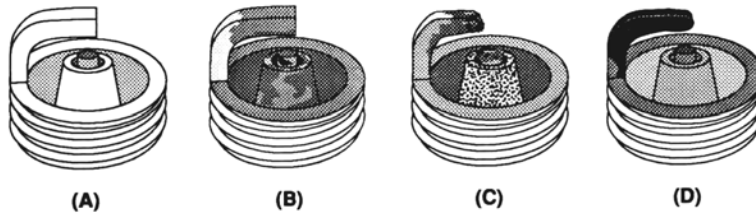

Figure 8 Spark Plug Condition
18. Push the throttle wide open while the engine is off. Each solenoid should make a clicking noise if it is cycling correctly. If no noise is heard, check all the wiring connections and the wiring schematic in Figure 8.
1. Perform a dynamometer pull or a full throttle pass down the racetrack. Note the power reading or vehicle mph (not e.t.). Examine the spark plugs for an indication of lean or rich nitrous/fuel conditions (refer to Figure 8 for tips on reading the spark plugs). For this application, the air/fuel mixtures at WOT tend to be very rich in stock form. You may wish to examine a plug after a NO-nitrous pass or dyno pull for comparison purposes.